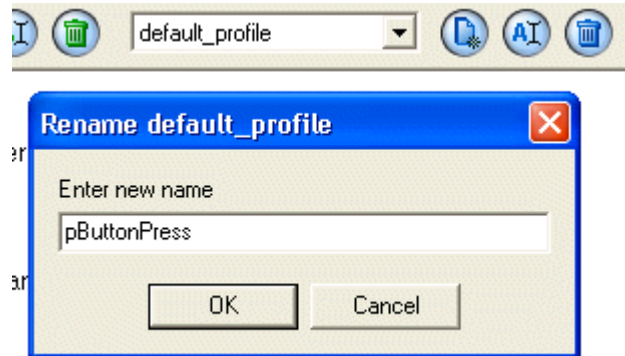

Figure 3:46 - Renaming an Execution Profile
- Rename the existing execution profile by clicking the **Rename** button (to the right of the execution profile drop down list). This is can be seen in Figure 3:46.